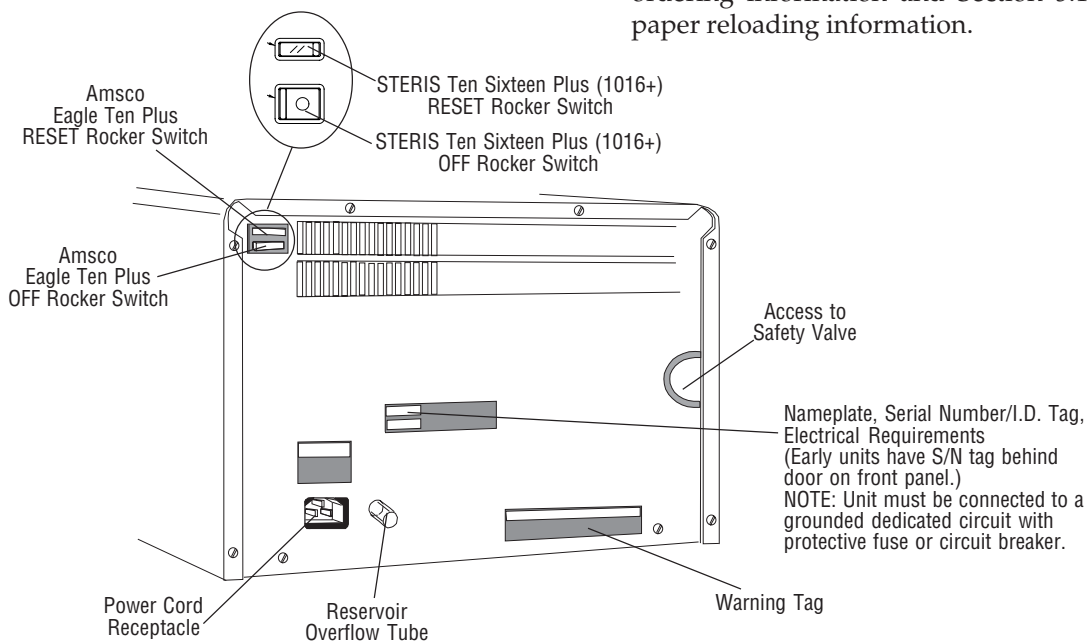

**Figure 3A-3**
- **Chamber Pressure Gauge** - displays the current pressure inside the chamber (0-60 psig). If this pressure gets too high (see Tables 3A-1 and 3A-2), it is released through the safety valve (rear panel, see Figure 3A-3).
- **Printer** (optional) - records all cycle data on 2-1/4" (5.72 cm) wide, single-ply thermal paper (see Figure 3A-4). See Section 7.14 for paper ordering information and Section 5.1.4.4 for paper reloading information.